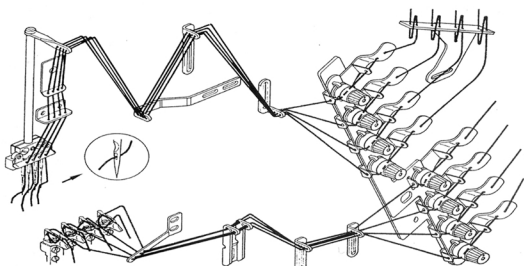

图9 (Fig.9)
- 1.Refer to the sewing type you need for correct threading .Any incorrect threading may cause thread brake 、 uneven stitches or skip stitches. (Fig.9)
- 1.Thread tension should be adjusted in regarding to kinds of threads fabrics, thickness of fabrics and stitch length etc. (Fig.9)